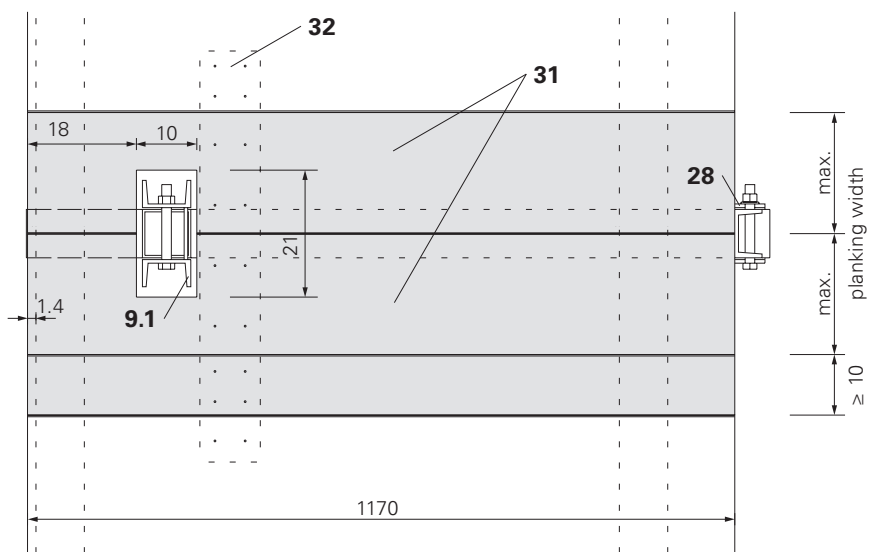

Fig. A2.07
- The planking is divided along the middle of the Platform Beam CB (28).
- The planking (31) to the side of the Platform Post CB 225 (30) is complete!
- The planking width in the compensation area is  $\geq 100$  mm. (Fig. A2.07)